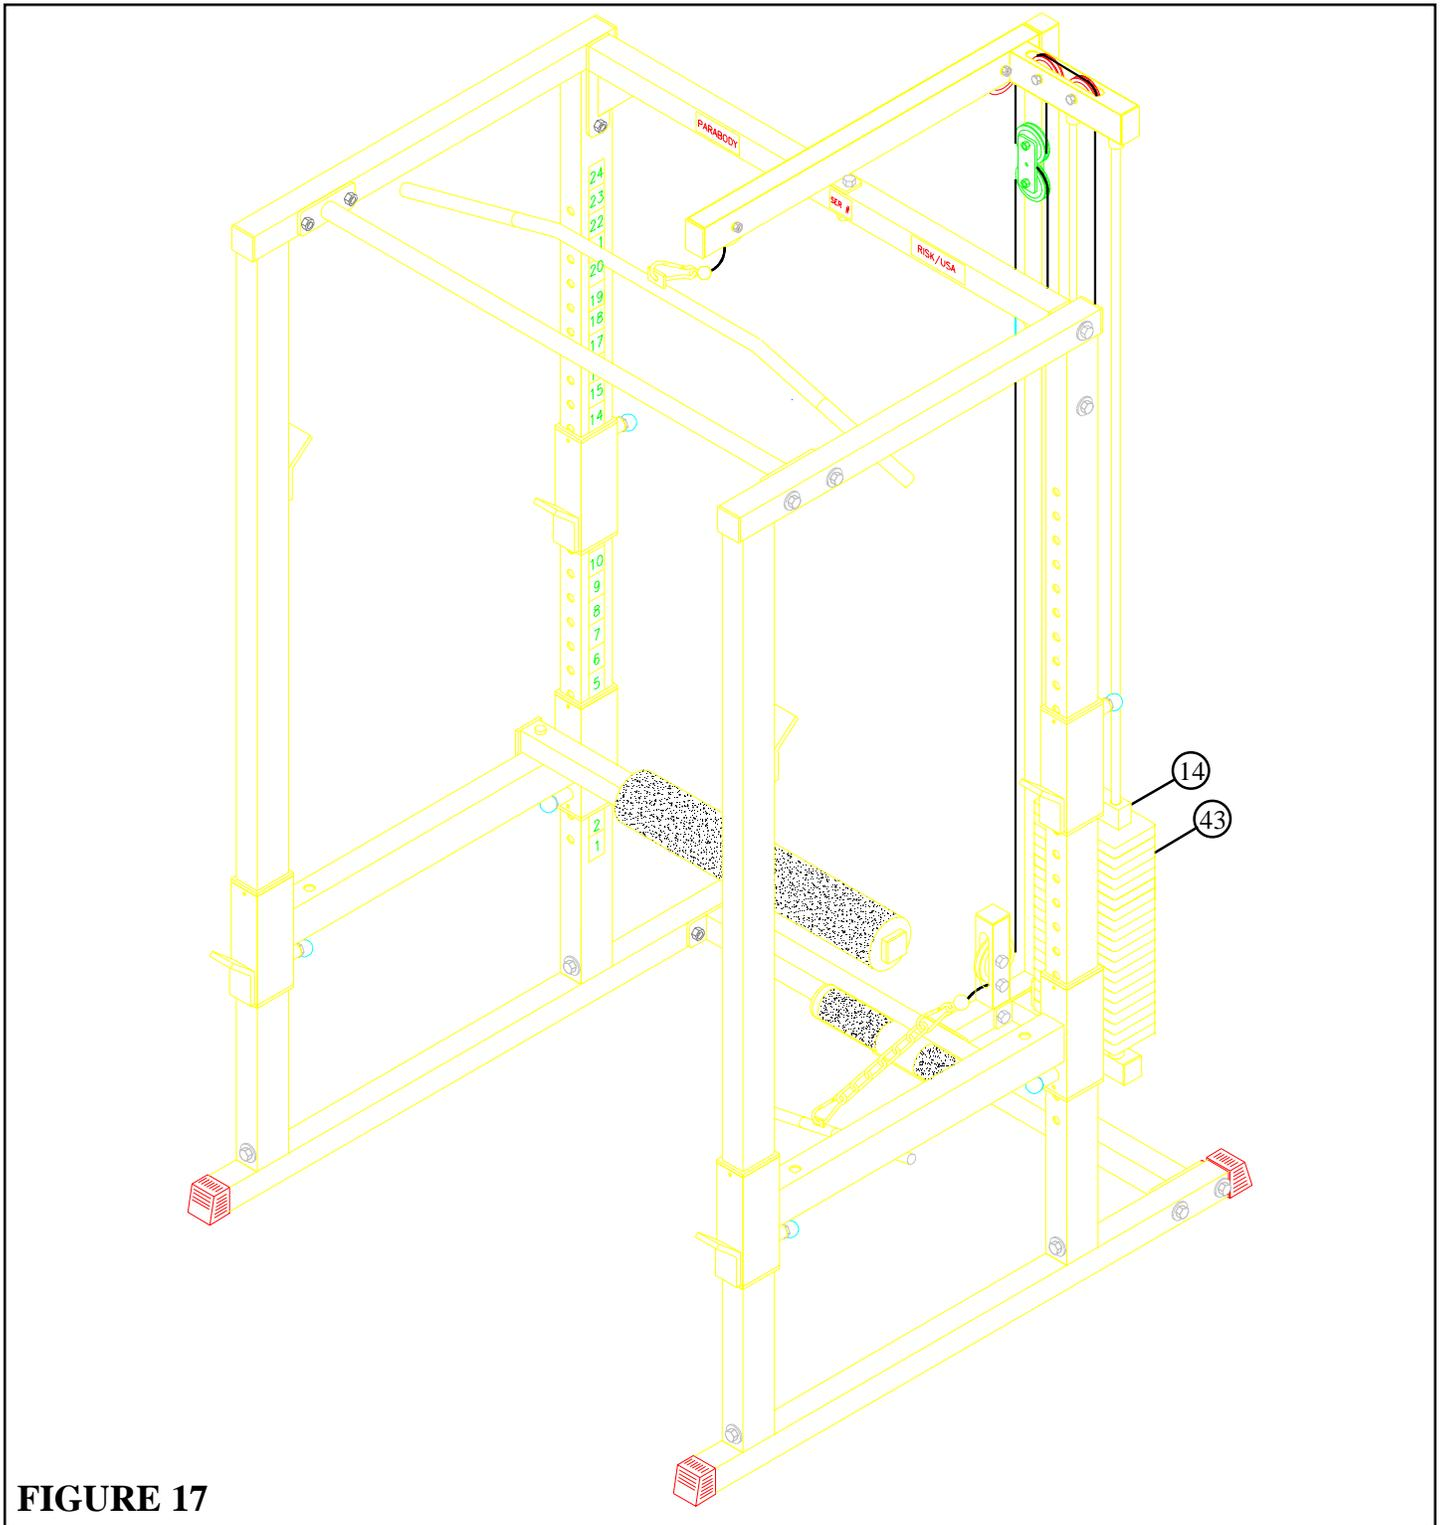

FIGURE 17
- If upon completion of assembly, the HEAD PLATE (14) does not sit on top of the first WEIGHT PLATE (43), push the HEAD PLATE (14) down, insert the WEIGHT STACK PIN (39) and perform several repetitions at the press station. This will relax the cable system and prevent the HEAD PLATE (14) from lifting up. See FIGURE 17.
- If after completing previous step, the HEAD PLATE (14) still does not sit on top of the first WEIGHT PLATE (43) or if there is excess slack in the cable system, adjust the threaded end of the LAT CABLE (15) and the LOW ROW CABLE (16) accordingly and retighten the jam nut. See FIGURE 17.